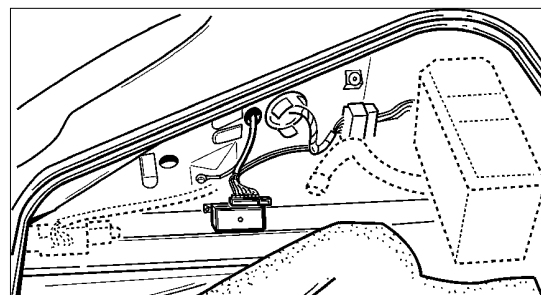

Figure 6
4.2 Remove the protective film from the Velcro strips on the control unit and attach the control unit to the side member/right wall of the luggage compartment. The plug should be facing upward as shown in Figure 6.